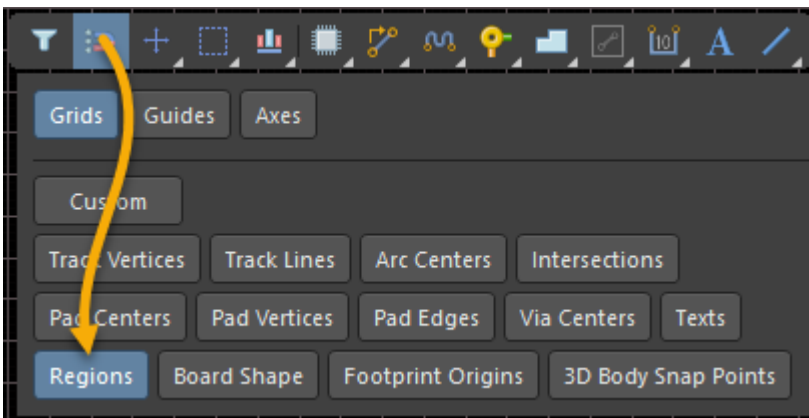

Figure 6. Active Toolbar with Snap Options
16. In the active bar, change the Objects for Snapping dropdown from **Custom/All-On** to **All-Off** (if needed). Then enable only the Regions option, Figure 6